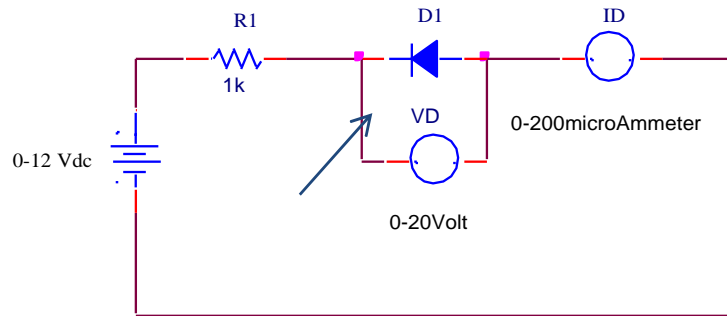

Fig. 3.2 Circuit diagram for reverse bias condition of diode
The circuit diagram for the reverse has been shown in fig. 3.2. The reverse bias region of operation is entered when the diode voltage v is made negative. If v is negative then the exponential term becomes negligibly small compared to unity and current becomes as
5. Using suitable patch cords make connection as shown in Fig. 3.2 for reverse characteristics.